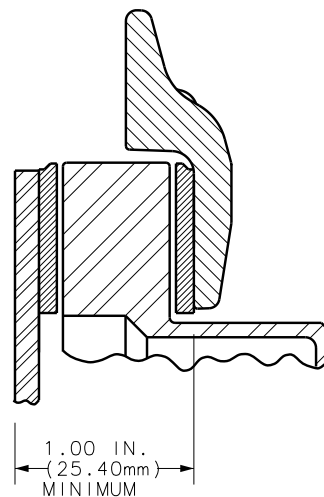

Figure A1-1
- If linings are still usable or are replaced, measure the cumulative thickness of two linings, disc, and pressure plate as shown in Figure A1-1. If the stack measures less than 1.00 (1-inch) with good linings (linings above .100 inch), the brake disc is considered below minimum wear thickness and should be replaced.